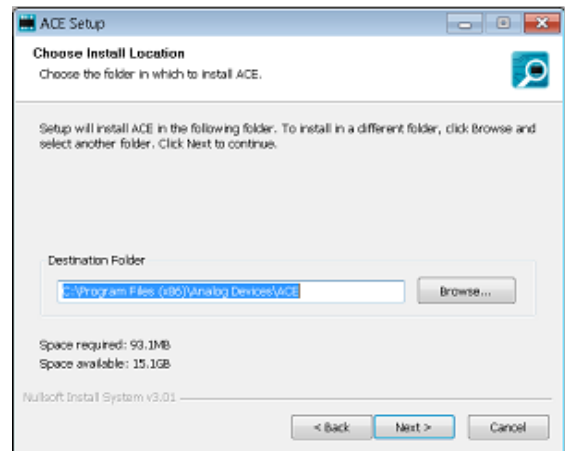

Figure 5. Choose Install Location
6. Choose an installation location and click **Next** (see Figure 5).